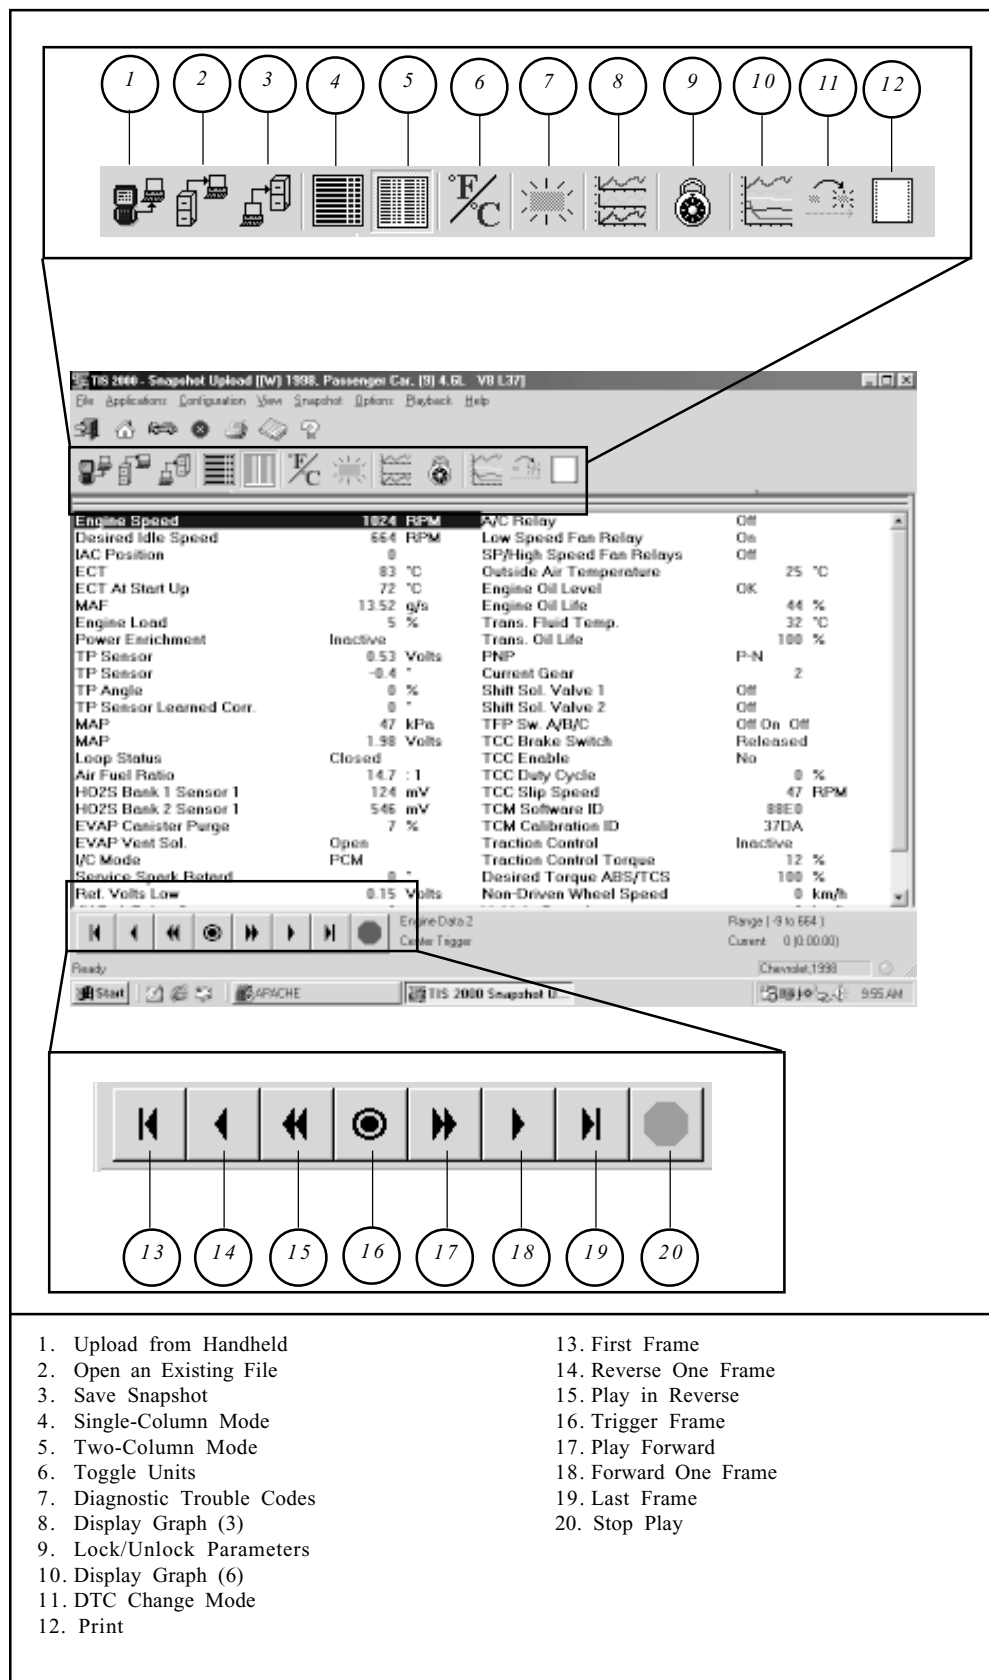

Figure I-65, Snapshot Display (Two-Column Mode shown)
6. After the snapshot uploads, a list of data parameters will display on the monitor (see Figure I-65).
After a snapshot has been uploaded (either from disk or the scan tool), it can be viewed and analyzed in a variety of ways. Figure I-65 identifies the different display icons and replay selections.
To replay a snapshot, use the display icons in the lower portion of the screen. The selections and their functions are as follows (refer to Figure I-65).
- **Two-Column** (refer to Figure I-65) displays a double-list. When using two-column mode, the maximum number of characters of any one line is 80.